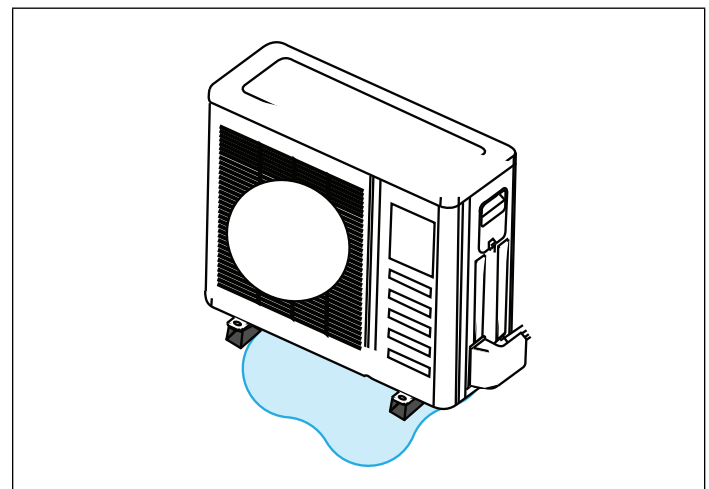

Figure 16. Avoid Defrost Water Ice Hazard
- Carefully consider how to manage defrost water disposal to prevent ice from blocking walkways or creating a safety hazard near the outdoor unit as illustrated in “Figure 16. Avoid Defrost Water Ice Hazard”.